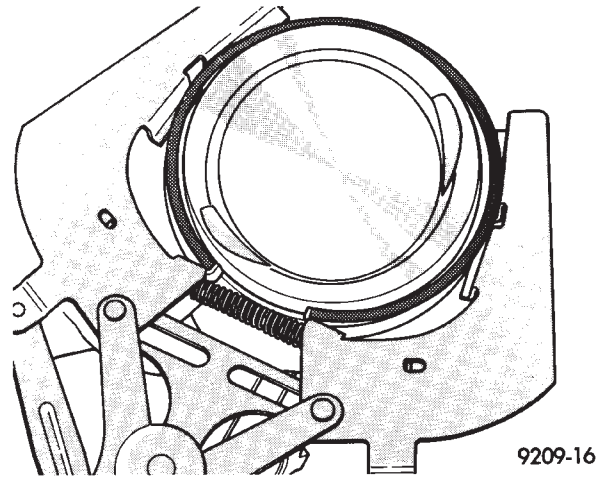

Fig. 45 Piston Rings—Removing and Installing
(1) Install rings on the pistons using a suitable ring expander (Fig. 45).
(3) Top ring gap must be positioned at 30 degrees to the right of the combustion chamber recess (looking at the piston crown from above).
(4) Second piston ring gap should be positioned on the opposite side of the combustion chamber recess.
(5) Oil control ring gap to be located 30 degrees to the left of combustion chamber recess.
(6) When assembling pistons check that components are installed in the same position as before disassembly, determined by the numbers stamped on the crown of individual pistons. Engine cylinders are numbered starting from gear train end of the engine. **Face chamber recess side of piston towards camshaft**. Therefore, the numbers stamped on con rod big end should also face in the same direction. To insert piston into cylinder use a ring compressor as shown in (Fig. 45).